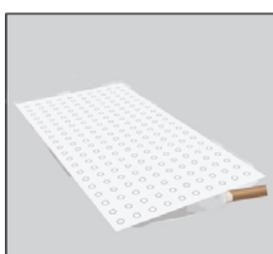

Figure 18: Clean up excess bonder paste.
- Excess bonder paste on tools and equipment can be cleaned up using soap and water and the paper towels provided. (See Figure 18)